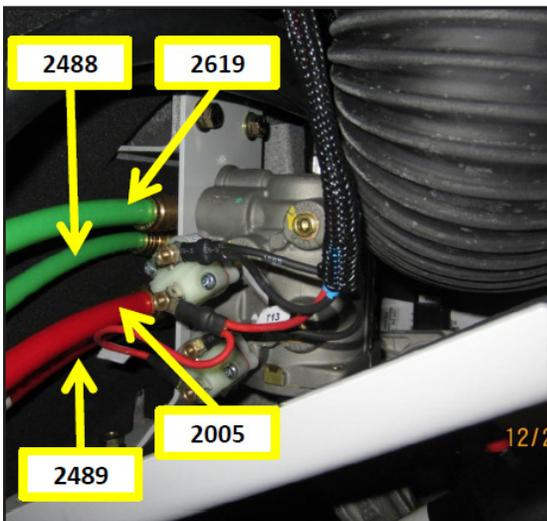

Figure 19: Reconnect air lines 2619, 2488, 2005, and 2489 to the treadle valve.
27. Reconnect air lines 2619, 2488, 2005, and 2489 to the treadle valve (Figure 19).